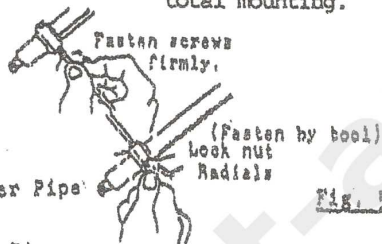

Fig. 4
- (C) Joint Upper Element and Mid Element with hex wrench firmly.
- (D) Then, insert Upper Ant. Pipe to Mid Ant. Pipe and proceed ABS joint assembling, as done in (B).
- (E) Assemble 3 radials. The Radial Lock Nut must be fasten firmly, using spanner etc. (Fig. 4)
- (F) Then, mount 2 Mount Bracket to the Mount Support Pipe. Pass the coax. cable through the Pipe and connect to the Power feeding section. Please fasten Hex Bolts firmly. Then, assemble such Support Pipe to whole Antenna and fasten Lock Bolt.